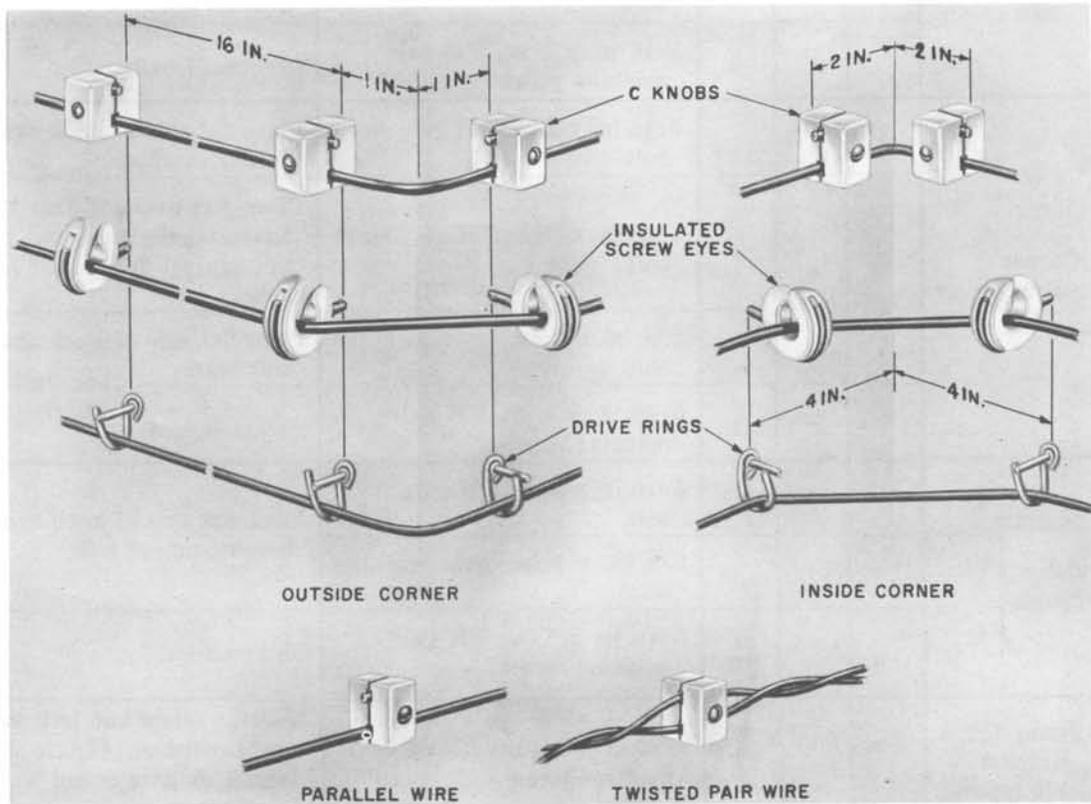

Fig. 17 – Fastening Drop and Block Wire Inside of Buildings
5.00 DROP AND BLOCK WIRE ATTACHMENTS FOR INSIDE OF BUILDINGS (Fig. 17)